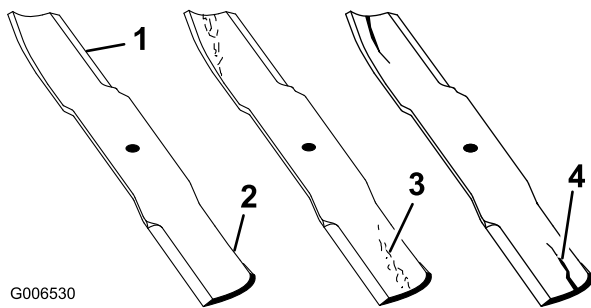

Figure 84
1. Inspect the cutting edges (Figure 84).
2. Inspect the blades, especially the curved area (Figure 84).
If you notice any damage, wear, or a slot forming in this area (Figure 84), immediately install a new blade.